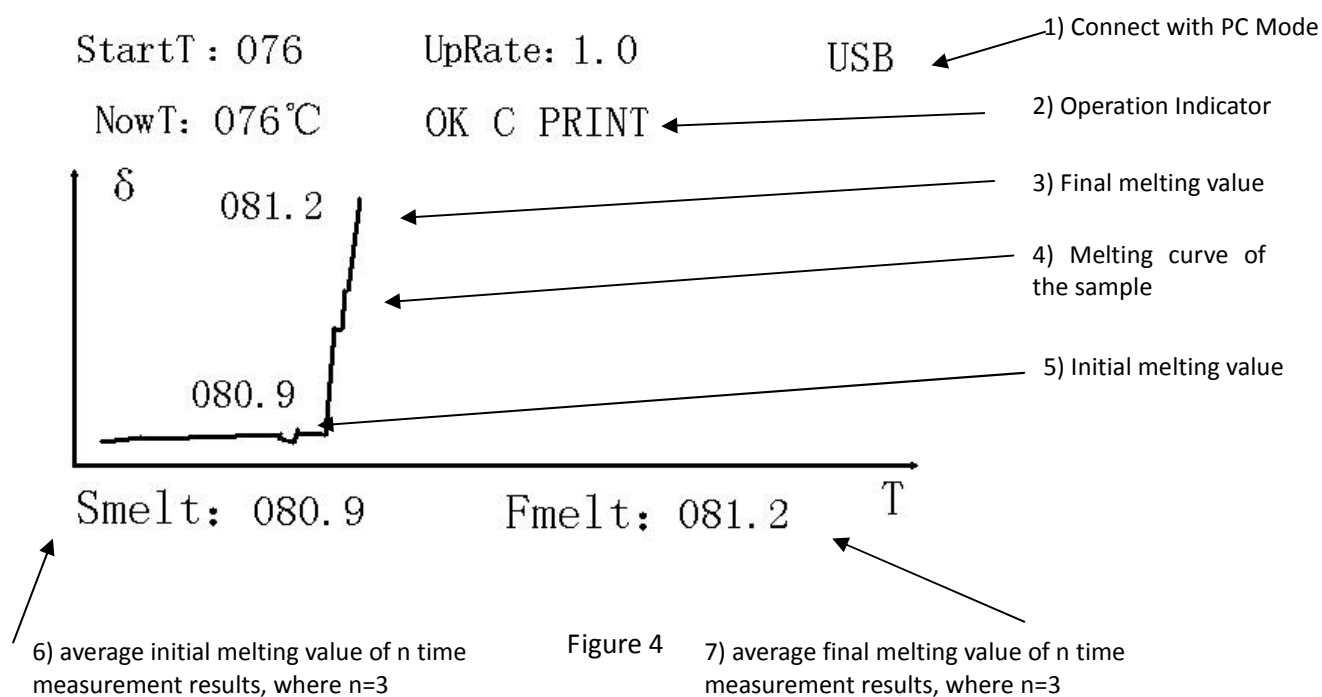

Figure 4
### 2. LCD Display (See Figure 4)
7. When reaching the initial melting point, the display shows the initial melting temperature; when reaching the final melting point, the final melting temperature will be shown, as well as the melting curves. (See Figure 4 for specific data meaning).